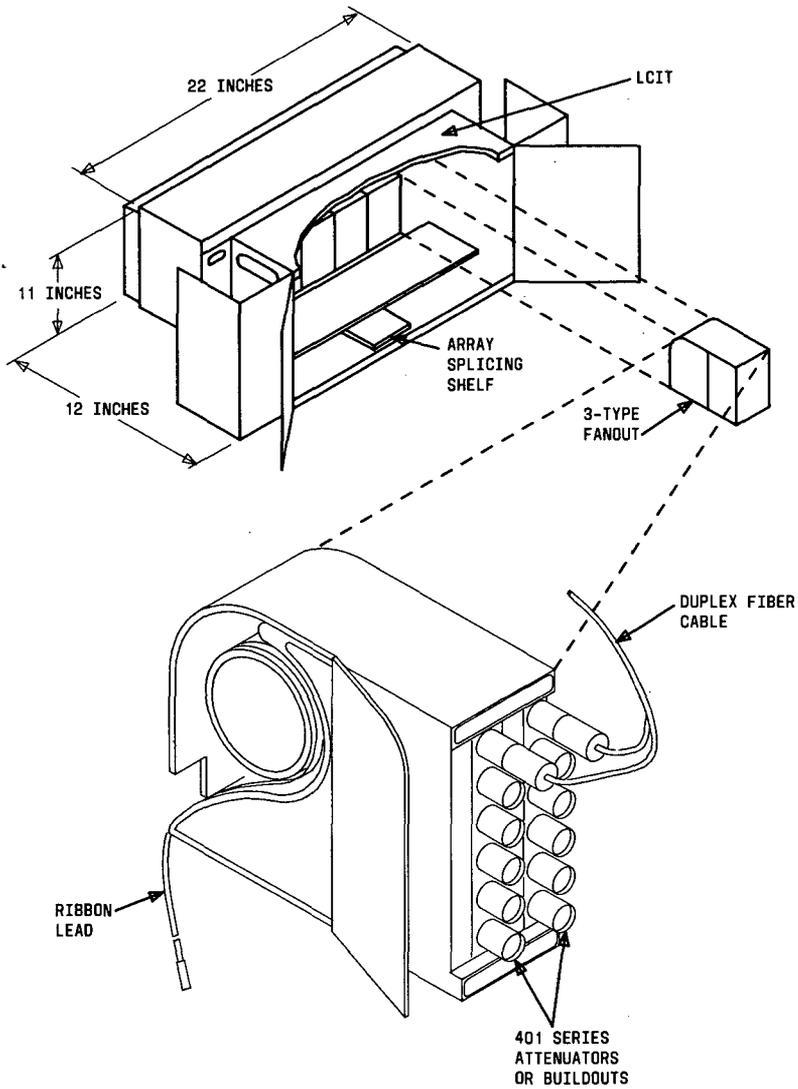
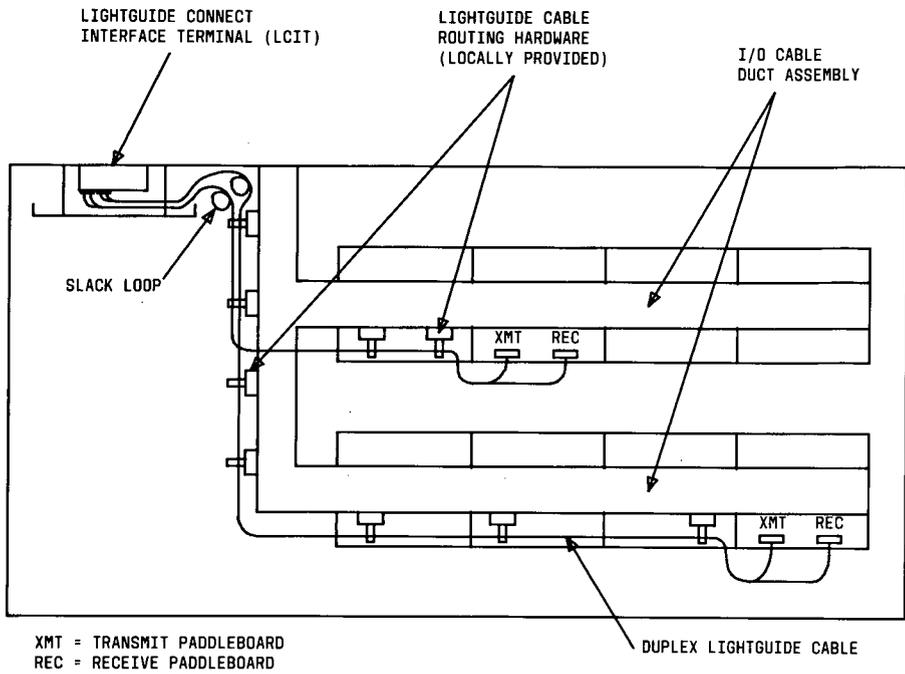

Figure 46. LCIT With 3-Type Fanout
Figure 47. Routing of Lightguide Cables to LCIT
Four types of duplex cable may be used for the lightguide connections; Group 461 (LL2A-B) or Group 463 (LB2A-B) for RMI, and Group 460 (LL2A-B) or Group 462 (LB2A-B) for TMS. The leads of the LL2A-B (62.5 micron) cable are designated *Fiber 1* and *Fiber 2*, and the LB2A-B (50 micron) leads are designated *Blue* and *White*. These cables are fragile and should be routed from the appropriate carrier to the LCIT (Figure 46) outside the overhead duct work. Figure 47 illustrates how the fiber cables should be routed.
3. Route the cable out of the module control cabinet to the central LCIT outside the overhead ducts using the locally provided hardware. This cable should enter the right side of the LCIT. Figure 47 illustrates the routing of lightguide cables.
4. Connect the appropriate attenuator to the central LCIT (Figure 46) in the correct position as determined by your CSD.
3. Route the cable out of the TMS/RMI cabinet to the central LCIT outside the overhead ducts using the locally provided hardware. This cable should enter the right side of the LCIT. Figure 47 illustrates the routing of lightguide cables.